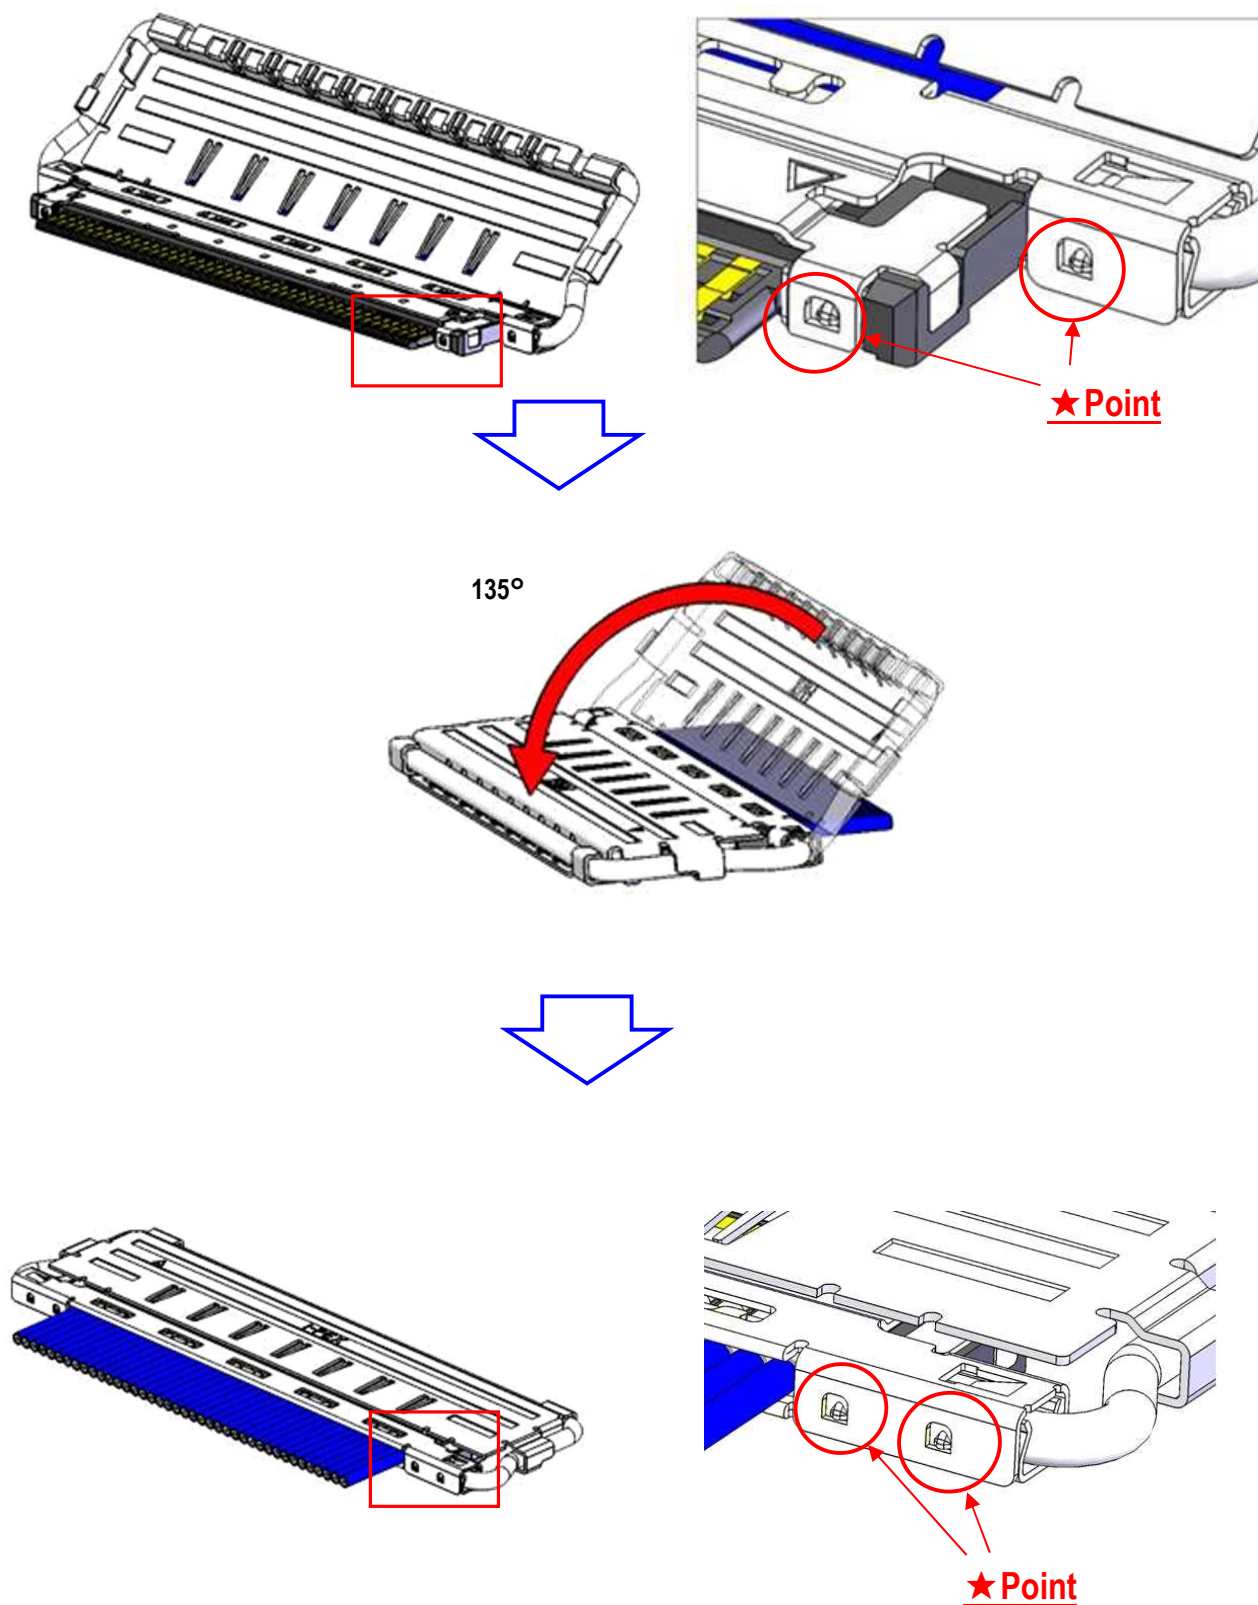

Fig.9 The assembly confirmation of SHELL-A
- ④ Soldering SHELL A, B and GND BAR with the soldering iron at all designated points is recommended. (Fig.9,10 ◆point)